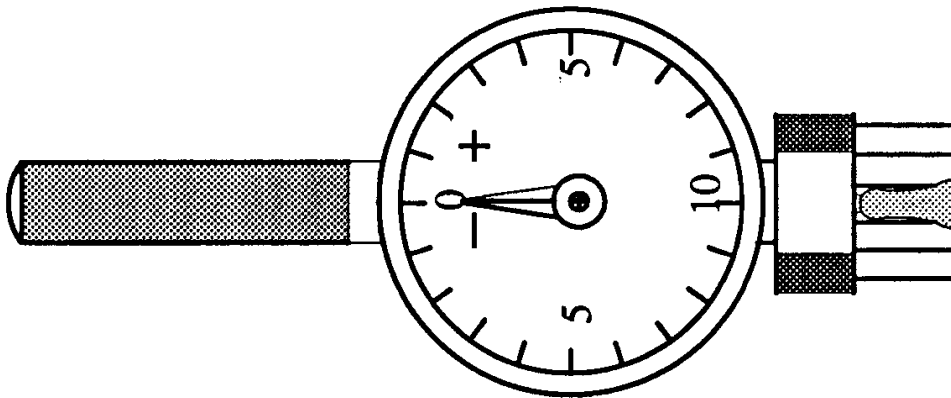

Figure 1 - Flushness Gauge
- Step 4. Ensure that un-riveted holes and installed rivets or fasteners in the test piece assembly (if installed) meet the requirements of the applicable fastener PPS. If the test piece assembly fails to meet the requirements of the fastener PPS, determine/correct the cause of the failure and prepare another test piece assembly before commencing production. Check countersink diameters with a countersinking gauge set-up and adjusted according to PPS 1.33. Measure flush head fastener protrusion using a flushness rivet gauge (see Figure 1). If the test piece assembly prepared after completion of the production run fails to meet the requirements of the fastener PPS, refer the corresponding production parts to Bombardier Toronto (de Havilland) MRB or Bombardier Toronto (de Havilland) delegated MRB for disposition.